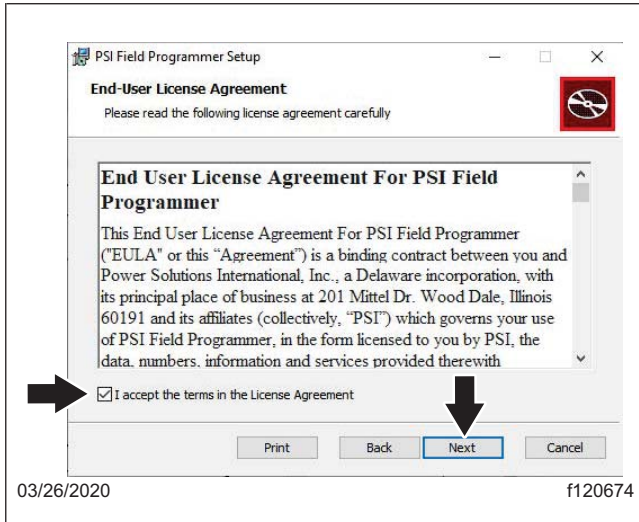

Fig. 6, Accepting the License Agreement and Selecting Next
10. Read the End User License Agreement, then select the accept terms box and select 'Next.' See Fig. 6.